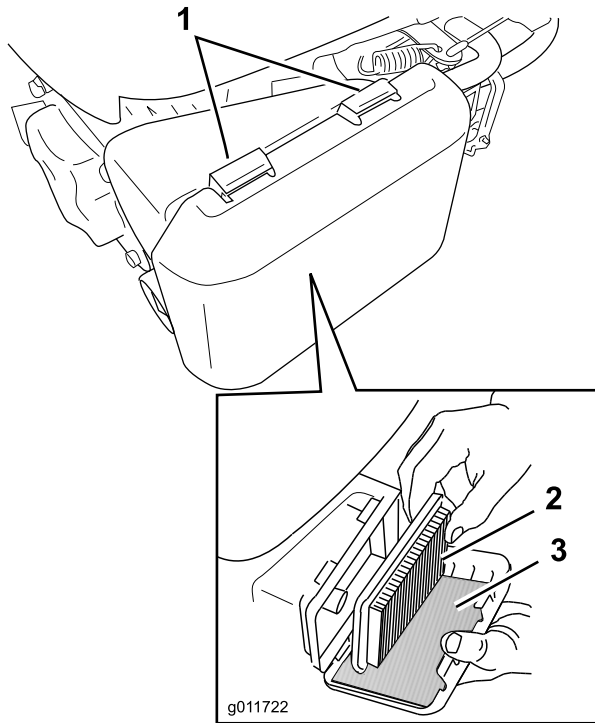

Figure 19
1. Press down on the latch tabs on top of the air cleaner cover (Figure 19).
3. Remove the paper air filter and the foam pre-filter (Figure 19).